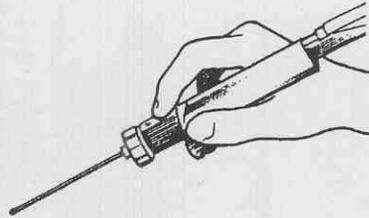

Figure 2-15. Direction selection.
g. The handpiece operating direction may be reversed by pressing the reverse button on the finger operated control pad (fig 2-15).